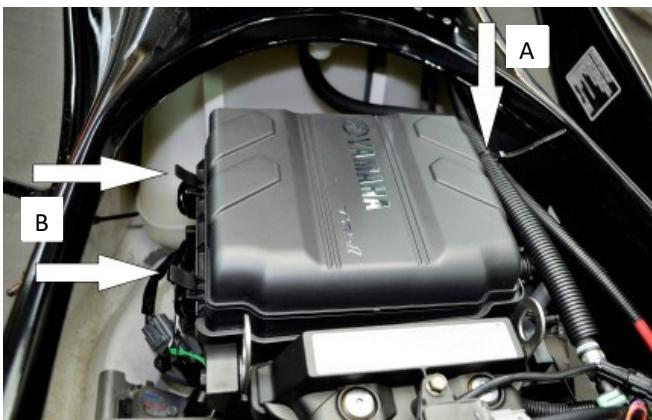

Figure 3
Cut zip tie securing fuel line to air box lid (A). Remove air box lid (pry 2 latches downward - B). (Figure 3)